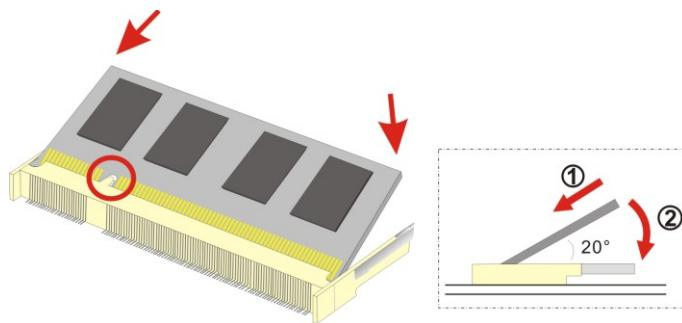

Figure 5-6: SO-DIMM Installation
To install a SO-DIMM into a SO-DIMM socket, please follow the steps below and refer to **Figure 5-6**.
Step 3: Insert the SO-DIMM. Push the SO-DIMM chip into the socket at an angle. (See **Figure 5-6**)
Step 4: Open the SO-DIMM socket arms. Gently pull the arms of the SO-DIMM socket out and push the rear of the SO-DIMM down. (See **Figure 5-6**)